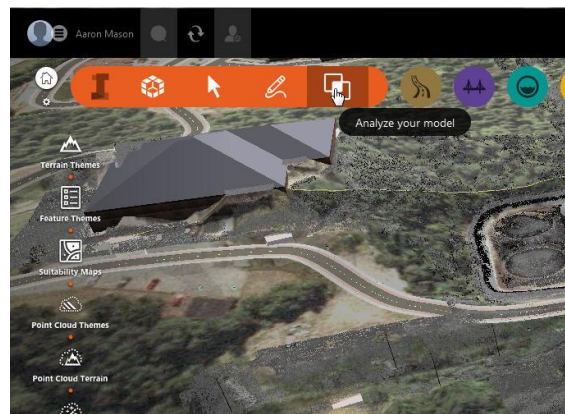

Figure 19: Analyze Model Menu
- Select the “Analyze Model” button from the Infraworks menu (Figure 19)